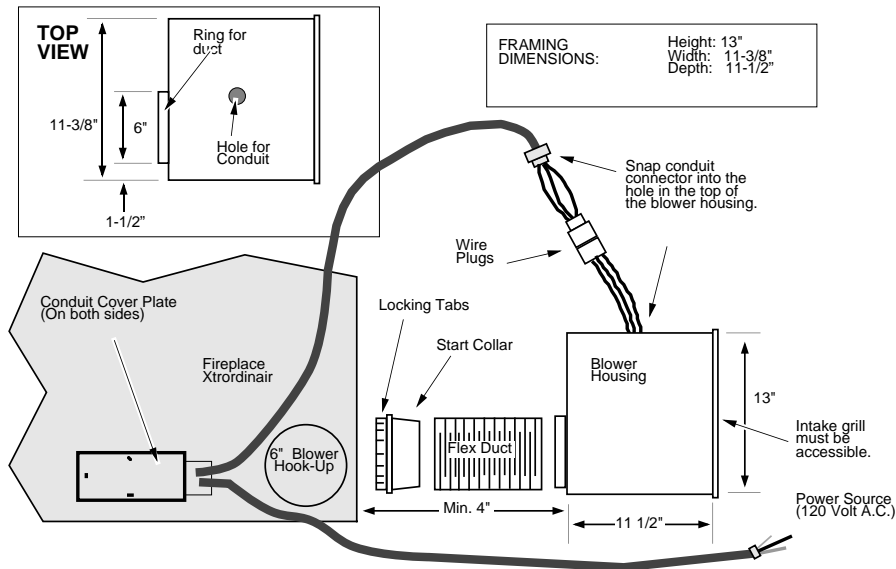

Figure 15
- Connect the blower duct to the right, left, or bottom of the fireplace. See Figure 15 for an overview.
Remove the side cover plate. Insert the starter section into the blower hook-up hole and bend the locking tabs outwards, locking the starter section in place (see Figure 15).
Remove the cover plate and pass-through plate on the bottom of the fireplace (both are held in place with the same 4 screws). Remove the 8-1/2" by 6-1/4" air deflector (flapper) above the cover plate and secure the starter section to the 6" diameter hole above the air deflector (bend the locking tabs outwards, locking the starter section in place - see Figure 15). Replace the pass-through plate with the 4 screws removed earlier (the pass-through plate has a 6-1/2" diameter hole for the duct).
- Connect the electrical supply lead conduit to a 120 Volt, 60 Hz (2 Amp) electrical supply. Use a junction box to protect the electrical connection (see Figure 15).
- Connect the blower conduit to the blower box by attaching the two molex connectors together. Insert the molex connectors into the blower box. Then attach the conduit to the blower box by inserting it into the top until it snaps in place (see Figure 15).